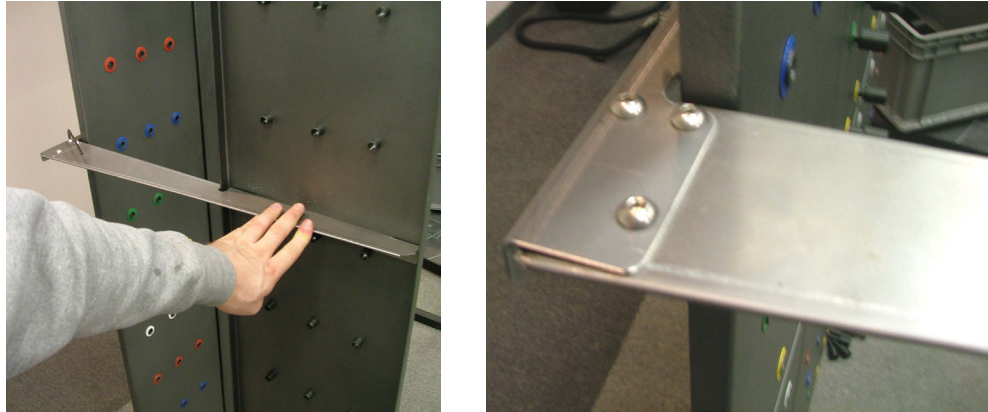

Figure 1-19. Adhering the Panel 6 Bracket and Securing All 3 Screws & Nuts
- Step 8. While holding the front of Panel 6, firmly push the Panel 6 bracket against the panel to ensure the adhesive bonds properly (Figure 1-19).
- Step 9. Insert two more screws into the back bracket and Panel 6 bracket and secure them each with a nut (Figure 1-19).